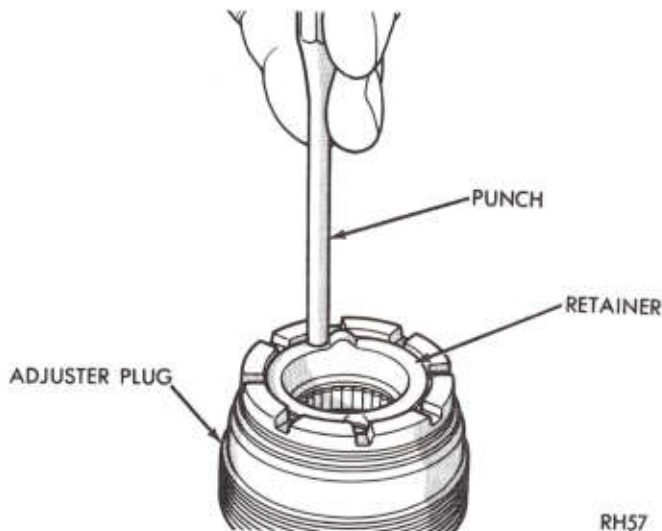

Fig. 12—Install Thrust Bearing Retainer
(3) Lubricate thrust bearing assembly with power steering fluid. Assemble thrust bearing assembly on plug inner flanged washer first, followed by thrust bearing, outer flanged washer, spacer, and retainer. (Flanges of both washers must face away from plug). Grooves on spacer should be visible when in position. Always use a new retainer. Tap new adjuster seal retainer into position using a pin punch (Fig. 12).